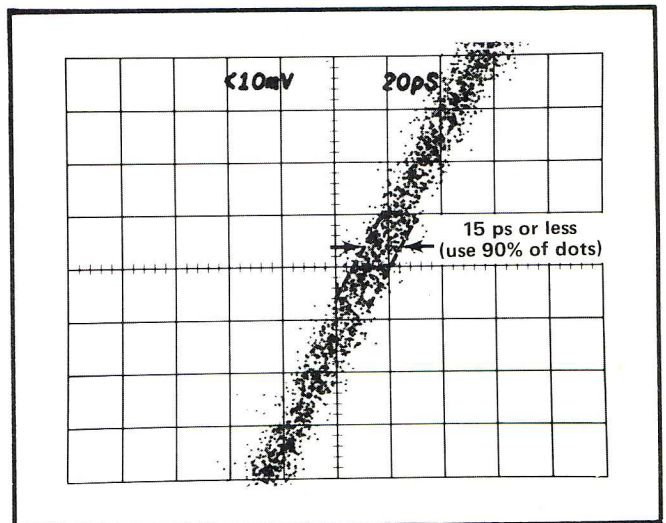

Fig. 5-3. Typical waveform to observe INPUT signal to Trigger Out signal jitter in step 4.
e. Use 90% of the dots displayed in the rising portion of the signal to measure the jitter to be 15 ps or less. See Fig. 5-3.